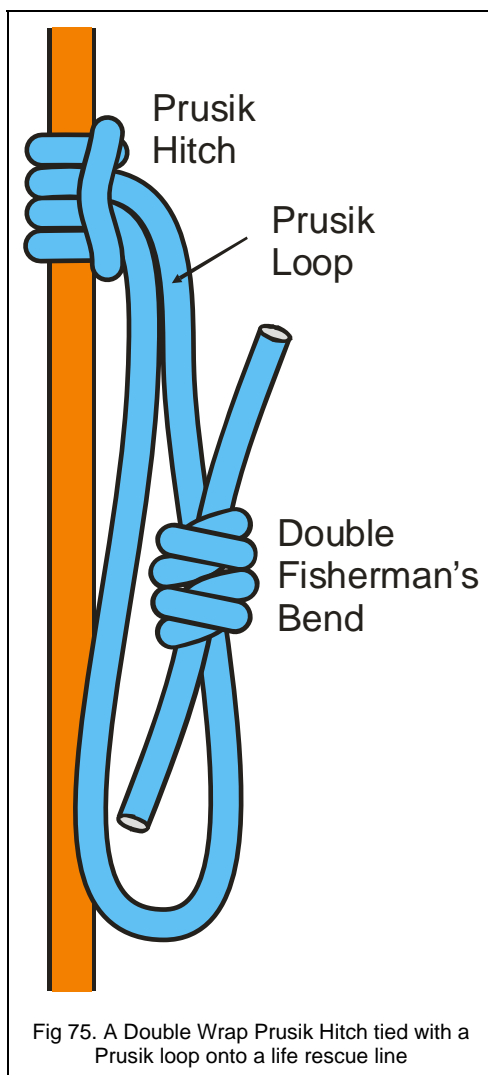

Fig 75. A Double Wrap Prusik Hitch tied with a Prusik loop onto a life rescue line
- Used as a rope grab device when attaching hauling systems to a life rescue line as shown *in figure 75*.